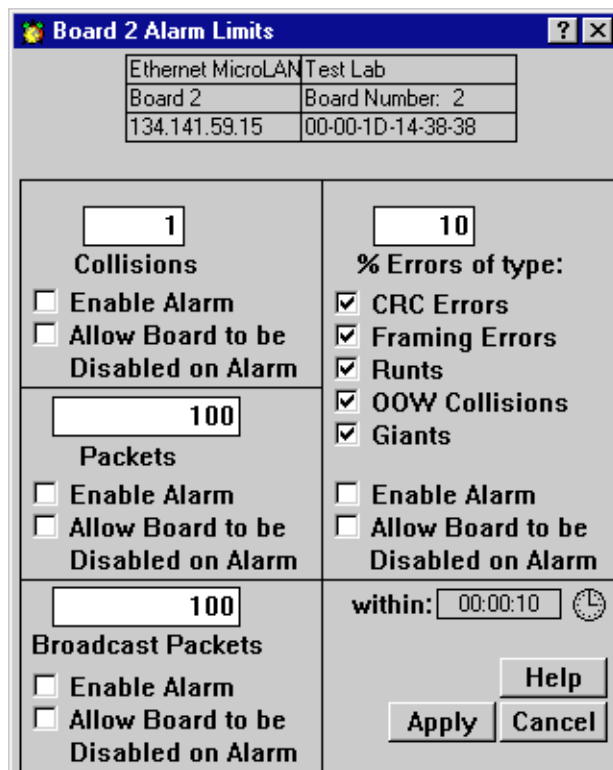

Figure 5-7. The Board Alarm Limits Window
3. Click on **Alarm Limits**. The Board Alarm Limits window, Figure 5-7, will appear.